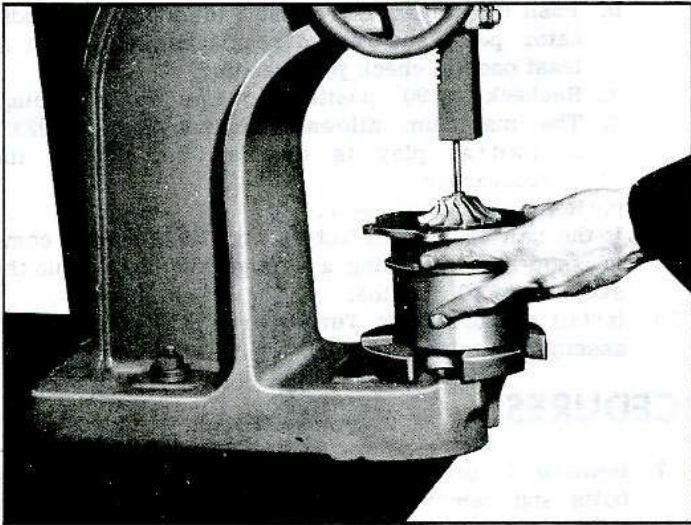

Fig. 41—Pressing Turbine Shaft from Impeller
5. Place a 1/4" diameter brass rod on the end of the turbine shaft (fig. 41) and press turbine shaft from impeller wheel.